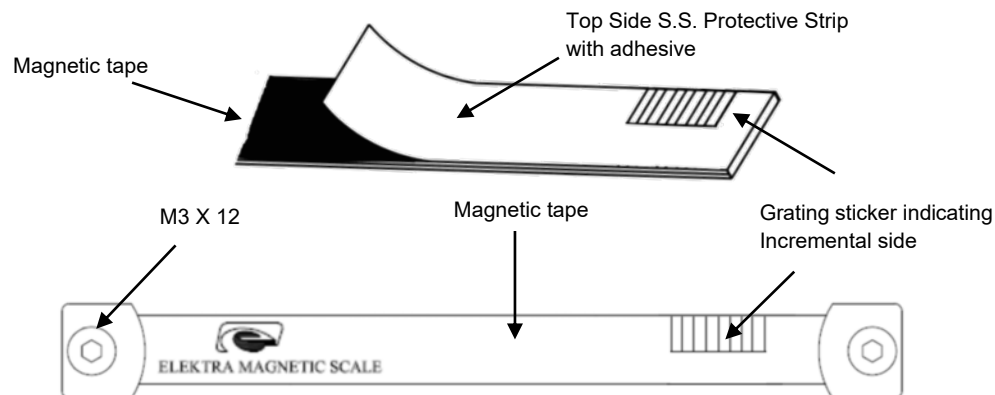

Figure 5
- Protective S.S. strip is provided along with magnetic tape. Fix protective S.S. strip on magnetic tape as shown in Figure 5. Peel off adhesion cover at the backside of S.S. strip.
- Fix both ends of the tape using supplied end caps and M3X12 screws as shown in figure 5.